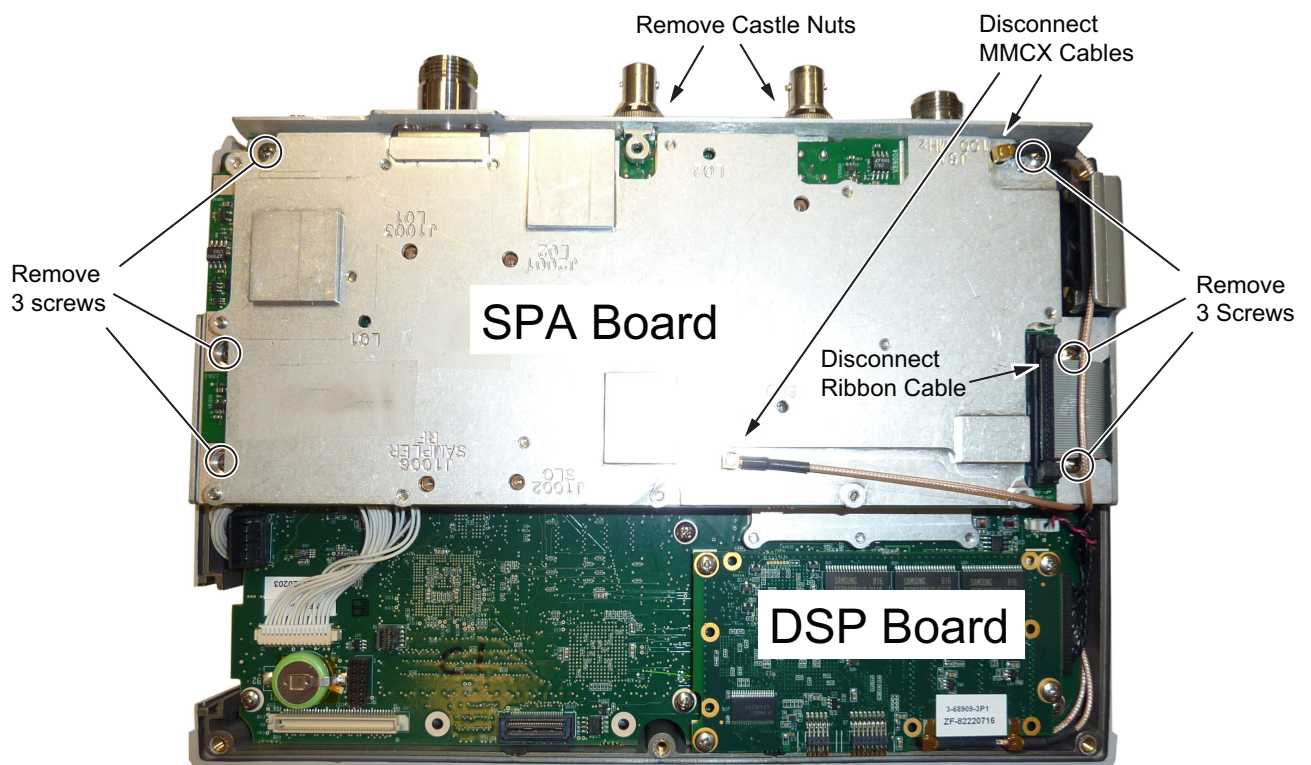
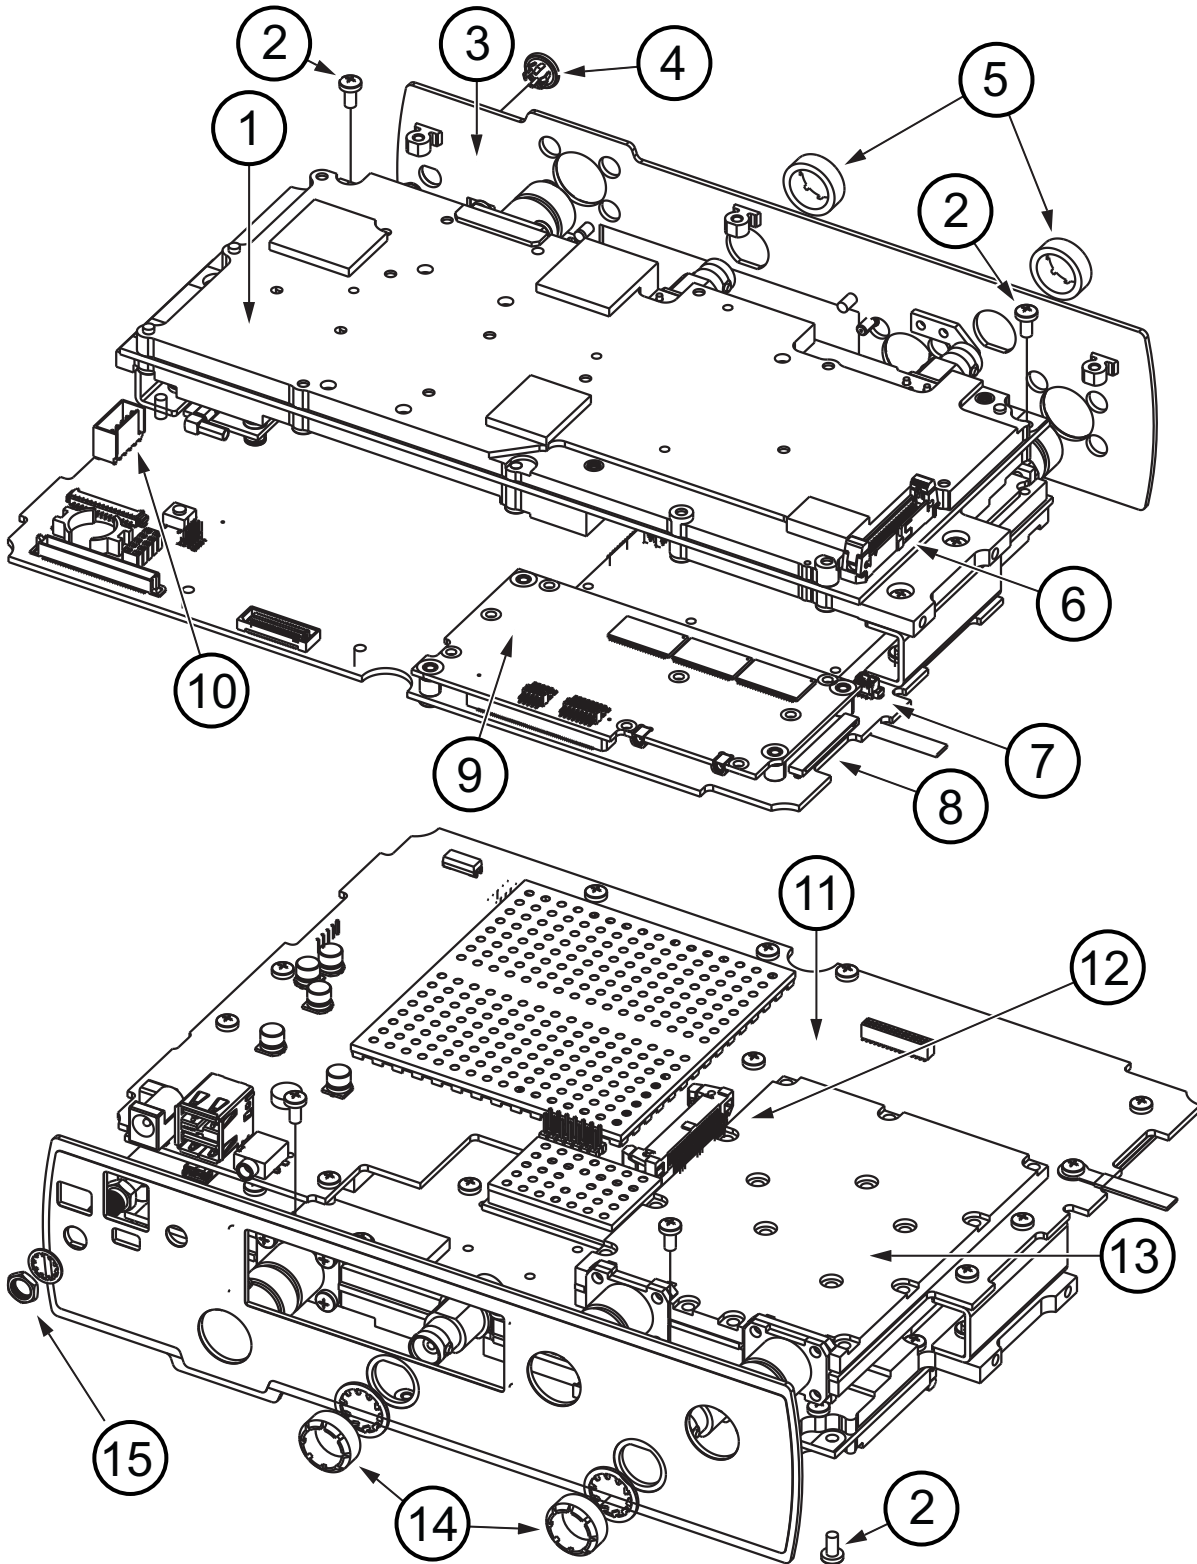

Figure 6-15. Removing the SPA PCB Assembly
Figure 6-16. Main/VNA PCB Assembly (with SPA PCB) Removed from Case
Note The PCB Assembly that is shown in Figure 6-15 is not a VNA Master, but the removal steps are appropriate.
Figure 6-16 shows the PCB assembly as viewed from the top and from the bottom.
Table 6-1. Numbered Items in Figure 6-16
3. Use the Anritsu Tool T1451 to remove the castellated BNC dress nuts from the External Reference connector and the External Trigger connector (shown in Figure 6-15 and Figure 6-16). Save the washers.
6. Use a Phillips-head screwdriver to remove the 6 screws (refer to Figure 6-15) retaining the SPA board. Two of these screws secure the SPA PCB to the top connector panel. The other four screws connect the SPA PCB to the brackets at the sides of the Mother Board. (Refer also to Figure 6-14.)
10. Use a Phillips-head screwdriver to secure the 6 screws (refer to Figure 6-15) retaining the SPA board to the top connector panel and to the Mother Board. Torque these six screws to 7.5 lbf · in (0.85 N · m).
11. Use the Anritsu Tool T1451 to attach the castellated BNC dress nuts to the External Reference connector and the External Trigger connector (shown in Figure 6-15 and Figure 6-16). Use the washers that were saved in Step 3, and torque the nuts to 7.5 lbf · in (0.85 N · m).
- a. Use the Anritsu Tool T1451 to remove the castellated BNC dress nuts from the External Reference connector and the External Trigger connector (shown in Figure 6-15 on page 6-19 and Figure 6-16 on page 6-20). Save the washers.
- b. Use a Phillips-head screwdriver to remove the 6 screws (refer to Figure 6-15) retaining the SPA board. Two of these screws secure the SPA PCB to the top connector panel. The other four screws connect the SPA PCB to the brackets at the sides of the Mother Board. (Refer also to Figure 6-14 on page 6-17.)